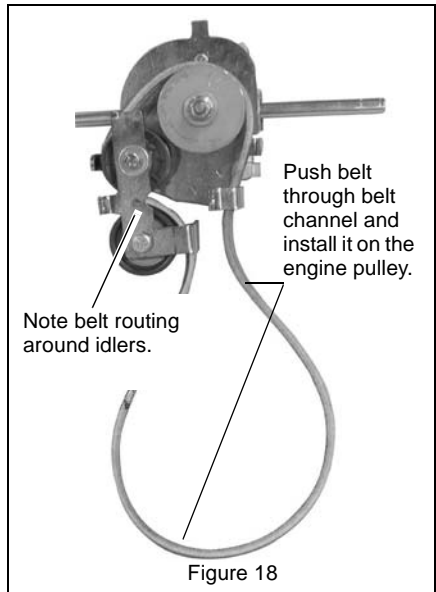

Figure 18
1. Install the new belt on the transmission input pulley and idlers, route it through the belt channel, and then install the belt on the engine pulley. See Figure 18.